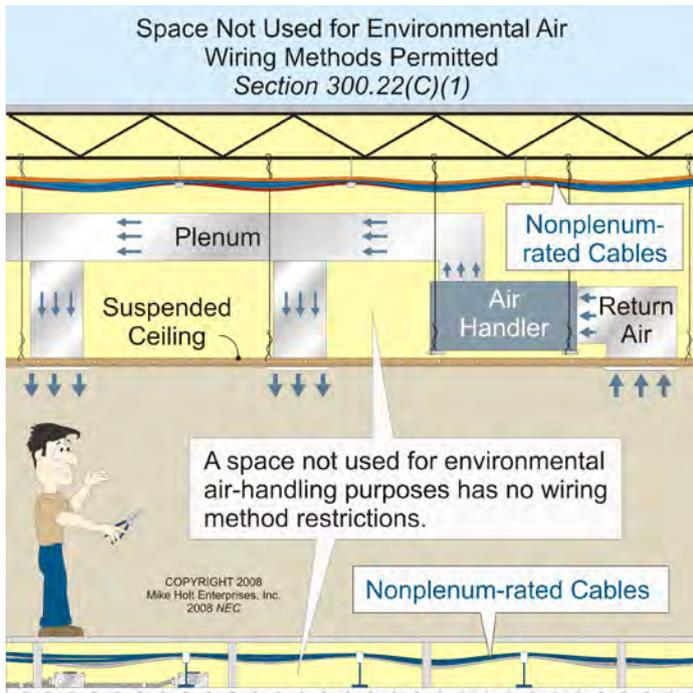

Figure 300-45
- Any wiring method suitable for the condition can be used in a space not used for environmental air-handling purposes. **Figure 300-45**